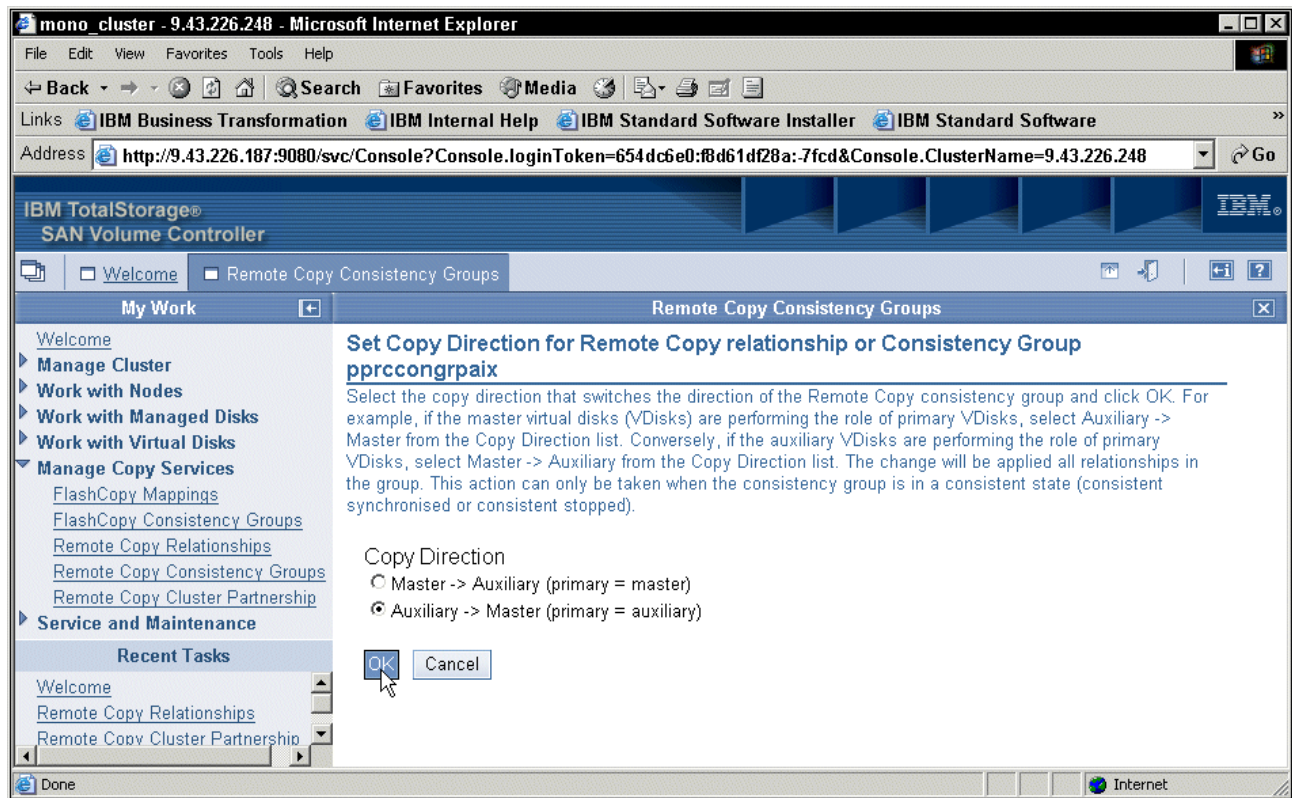

Figure 11-41 Switching the PPRC relationship direction
3. On the Set Copy Direction for Remote Copy relationship or Consistency Group panel (Figure 11-41), you can switch the copy direction of the PPRC consistency group. In this example, we select **Auxiliary --> Master**. Then click **OK**.